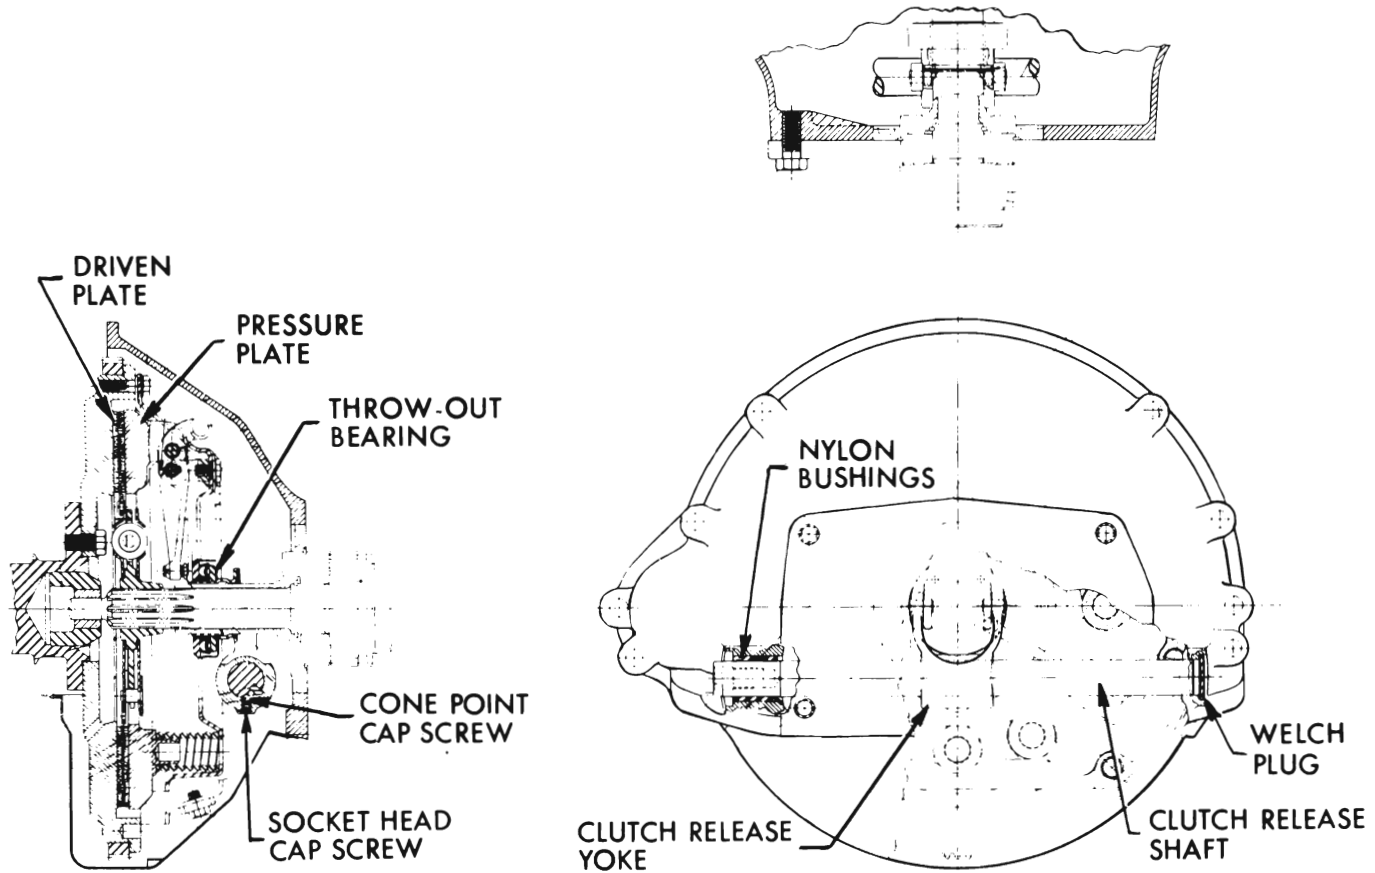

Figure 4-4—Clutch Information Assembly
The clutch release shaft pivots in the upper flywheel housing (see Figure 4-4). The clutch release shaft is retained in the upper flywheel housing by the clutch release lever and clutch equalizer (see Figure 4-4).
7. Remove clutch release seal (see Figure 4-4).
8. Remove nylon bushing (see Figure 4-4).
10. Pull clutch release shaft out approximately three (3) inches. Slide release yoke and throw-out bearing off end of release shaft. Remove release shaft.
5. Slide clutch release yoke onto shaft and slide shaft into place. CAUTION: Make sure release yoke is installed so cone pointed cap screw can be installed into counter bore on shaft. (See Figure 4-4).
6. Install clutch release yoke over woodruff key. Install cone point socket head cap screw first. Install second socket head cap screw in same hole. (See Figure 4-4).